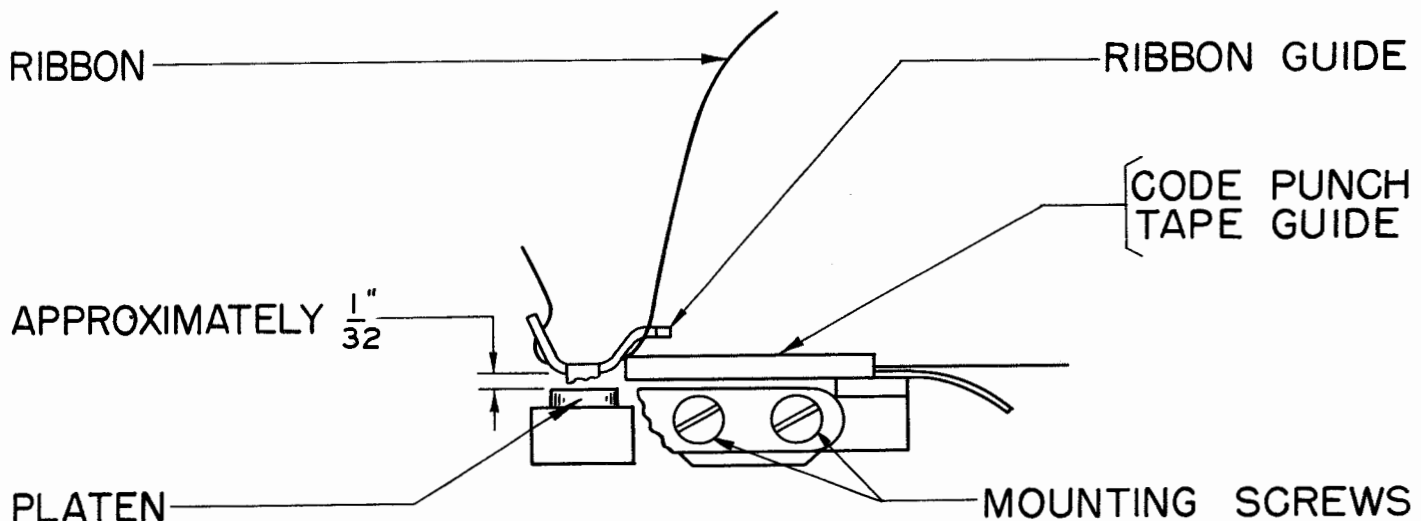

Figure 49
2.97 Code-punch Tape-guide: The tape shall enter the code-punch block without buckling, and a center line through the tape-code holes of the LTRS combination shall be at a right angle to the edges of the tape. See Figure 49.
(a) The ribbon shall clear the platen as indicated in Figure 49 when the platen is in either the FIGS or the LTRS position. The guide shall be centered over the platen. See Figure 49.